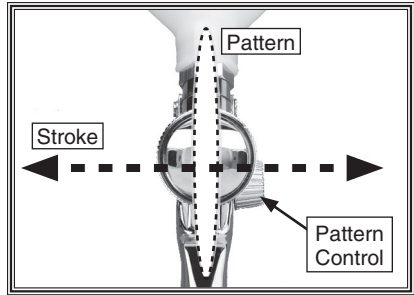
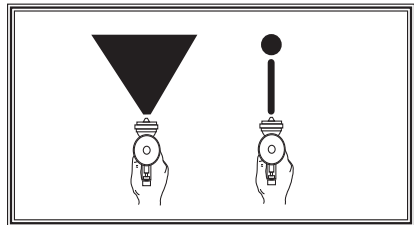

Figure 8. Set up for horizontal spray stroke with vertical fan pattern.
Figure 10. Fan pattern adjustment.
Rotating the pattern adjustment control in **Figure 8** and **9** will give you a range between the two patterns in **Figure 10**.
2. Insert the bigger end of the hex socket tool into the head of the disassembled spray gun. Use the service wrench on the end of the hex socket tool as a lever to remove the fluid nozzle plug and seals, as shown in **Figure 10**.